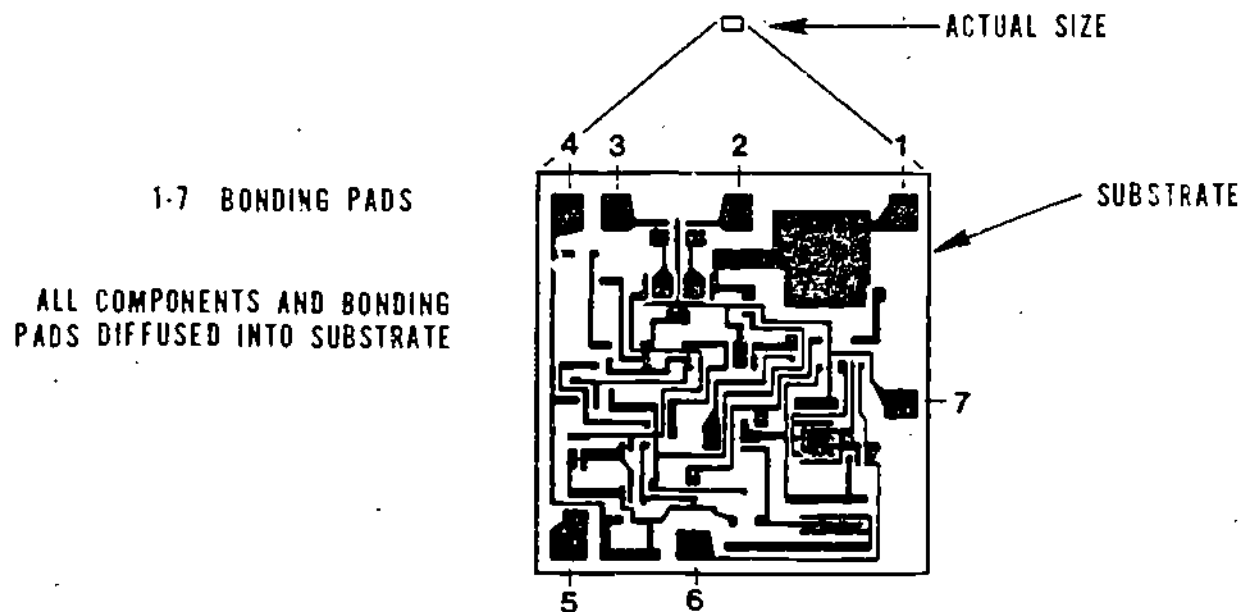

Figure 3
4. If you could open up an IC, you might be slightly surprised to see what is inside. Instead of a bunch of miniature components, you would see a paper-thin wafer of silicon, called the substrate, whose size is dependent upon circuit complexity. Figure 3 shows a 23 transistor amplifier which measures .14 cm long and .14 cm wide.